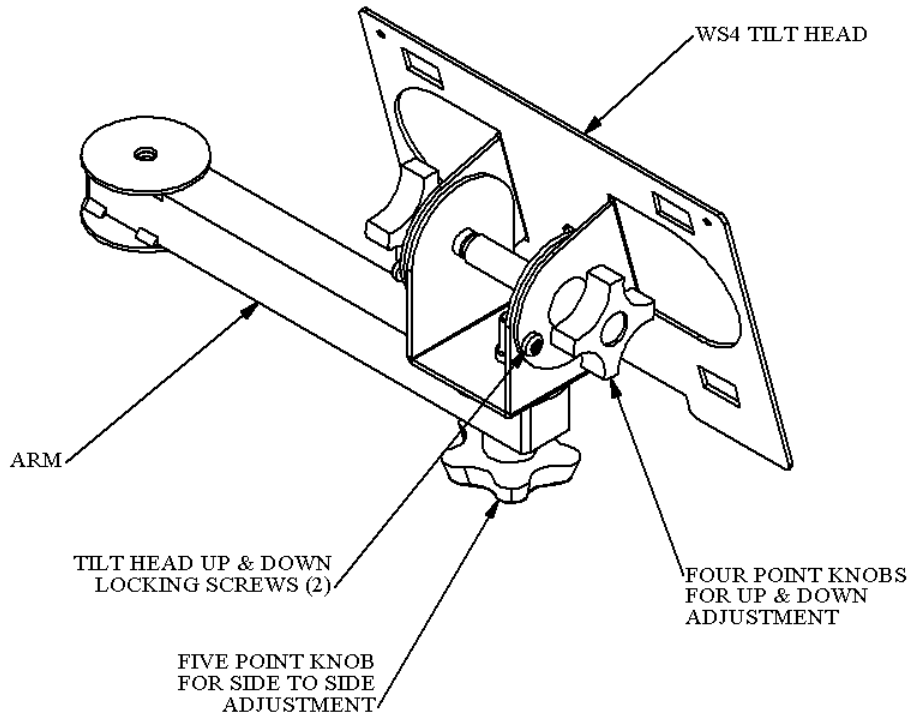

Figure 4 - An 8" arm and WS4
3. Install the tilt head on the end of the arm (See Figure 4).